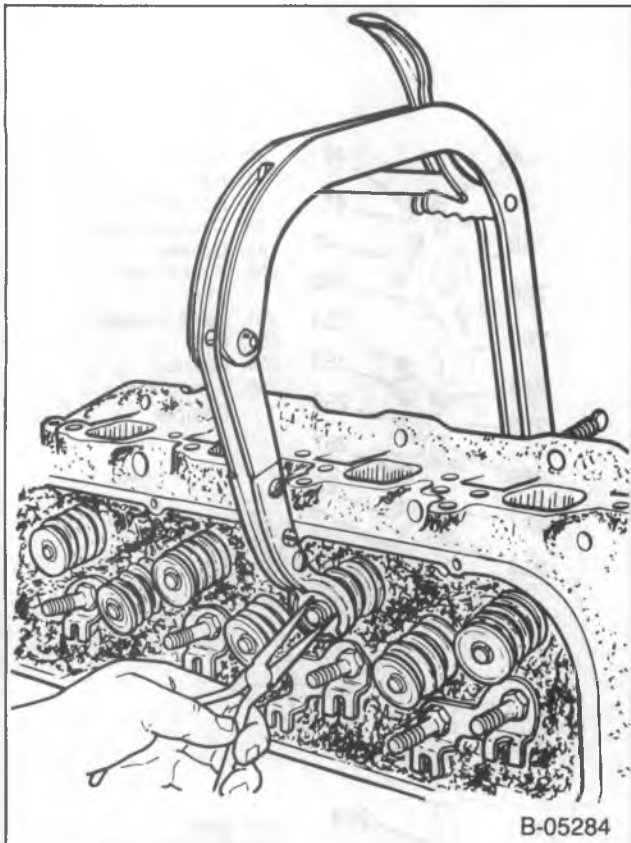

Figure 39—Compressing the Valve Springs
1. Valve keepers (251).
- Compress the springs (256) with J 8062 (figure 39).
2. Caps (253), shields (255), springs with dampers (256) and rotators (254).
3. O-ring seals (252) (if used) and seals (257).
- Compress the valve spring, using J 8062 (figure 39). Compress the spring enough so the lower valve stem groove can be clearly seen.
2. Rotators (254).
3. Seals (257).
4. Valve springs with dampers (256).
5. Caps (253).
6. Valve keepers (251).
- Compress the valve spring using J 8062 (figure 39). Compress the spring until the valve stem groove can be seen.